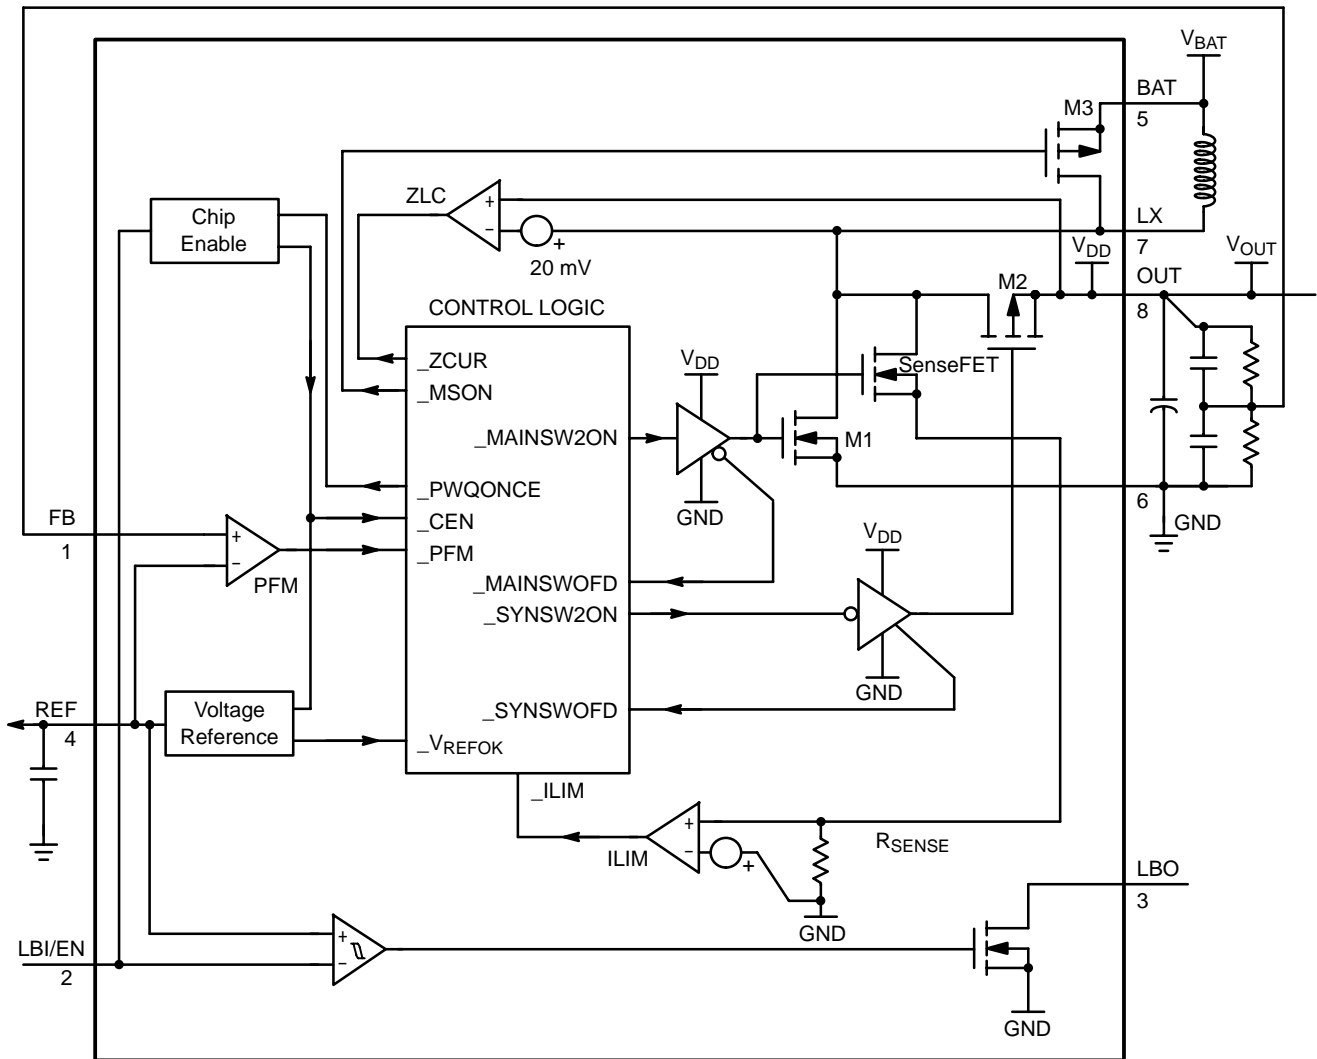

Figure 2. Simplified Functional Diagram
From the simplified Functional Diagram (Figure 2), the output voltage is divided down and fed back to pin 1 (FB). This voltage goes to the non-inverting input of the PFM comparator whereas the comparator's inverting input is connected to REF. A switching cycle is initiated by the falling edge of the comparator, at the moment, the main switch (M1) is turned ON. After the maximum ON-time (typical 1.4  $\mu\text{s}$ ) elapses or the current limit is reached, M1 is turned OFF, and the synchronous switch (M2) is turned ON. The M1 OFF time is not less than the minimum OFF-time (typical 0.31  $\mu\text{s}$ ), this is to ensure energy transfer from the inductor to the output capacitor. If the regulator is operating at continuous conduction mode (CCM), M2 is turned OFF just before M1 is supposed to be ON again. If the regulator is operating at discontinuous conduction mode (DCM), which means the coil current will decrease to zero before the next cycle, M1 is turned OFF as the coil current is almost reaching zero. The comparator (ZLC) with fixed offset is dedicated to sense the voltage drop across M2 as it is conducting, when the voltage drop is below the offset, the ZLC comparator output goes HIGH, and M2 is turned OFF. Negative feedback of closed loop operation regulates voltage at pin 1 (FB) equal to the internal voltage reference (1.190 V).
From Figure 2, SenseFET is applied to sample the coil current as M1 is ON. With that sample current flowing through a sense resistor, sense-voltage is developed. Threshold detector (ILIM) detects whether the sense-voltage is higher than preset level. If it happens, detector output signifies the CONTROL LOGIC to switch OFF M1, and M1 can only be switched ON as next cycle starts after the minimum OFF-time (typical 0.31  $\mu\text{s}$ ). With properly sizing of SenseFET and sense resistor, the peak coil current limit is set at 1.0 A typically.